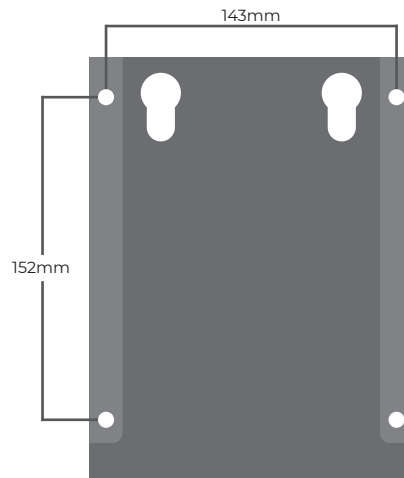

Fig. 5.4.2
1. Refer to the Fig. 5.4.2 to understand the dimensions of the wall bracket. Please make sure the space on the wall is at least 5.62" x 5.98" (143mm x 152mm).